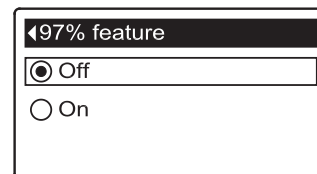

FIG. 138
8c. 97% feature: If the desired option already has a black dot next to it (See Figure 138), go to Step 9. Otherwise, press the DOWN (▼) or UP (▲) buttons to scroll to the other option, then press SELECT (O) to choose it. If this feature is On, the conditioner/refiner will automatically recharge when 97% of capacity is used, at any time of day. Default is Off.